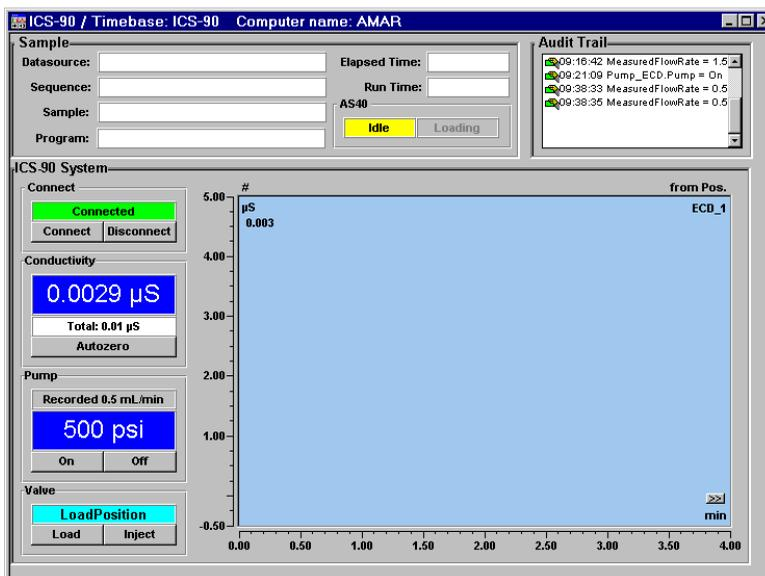

Figure 3-3. Chromeleon System Control Panel (ICS-90 with an AS40)
- Connect the ICS-90 to the Control panel by selecting **Control>Connect to Timebase**. Figure 3-3 is an example of the Dionex_ICS-90_System_AS40 Control panel.
- Turn on the pump by clicking the **On** button on the ICS-90 Control panel (see Figure 3-3).
- For manual sample processing (see Section 3.5.4), click the **Inject** button on the Chromeleon Control panel (see Figure 3-3).
1. Verify that the AS40 output line is connected to port S (5) of the ICS-90 injection valve, and the **LOAD** connector from the AS40 Relay Control cable is connected to the ICS-90 **TTL Output** connector on the rear panel. See Section B.17 for detailed installation instructions.
- For manual sample processing (see Section 3.5.4), load the injection valve sample loop as instructed in the *AS40 Automated Sampler Operator's Manual* (Document No. 034970). Then, click the **Inject** button on the Chromeleon Control panel (see Figure 3-3) to start the injection.